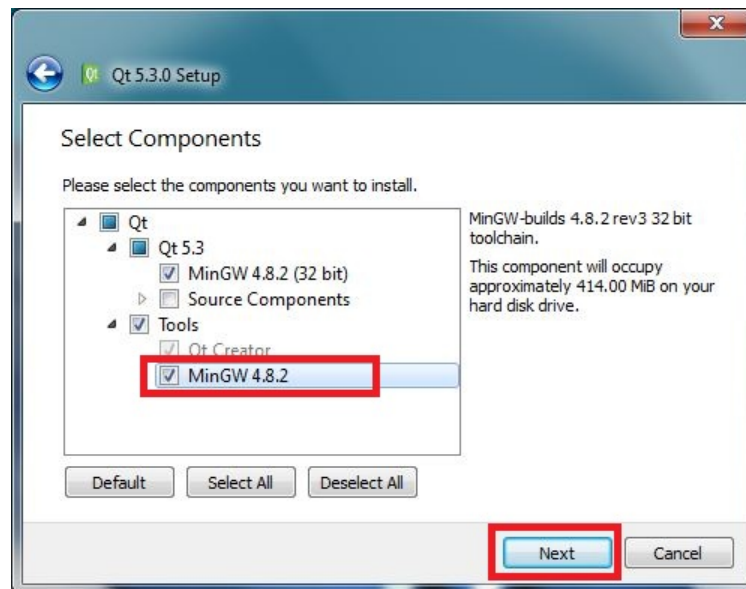

Figure 4-3. Qt Creator IDE Installation Component Selection
5. Choose the install components as shown in Figure 4-3. Make sure that MinGW is selected and click the **Next** button.